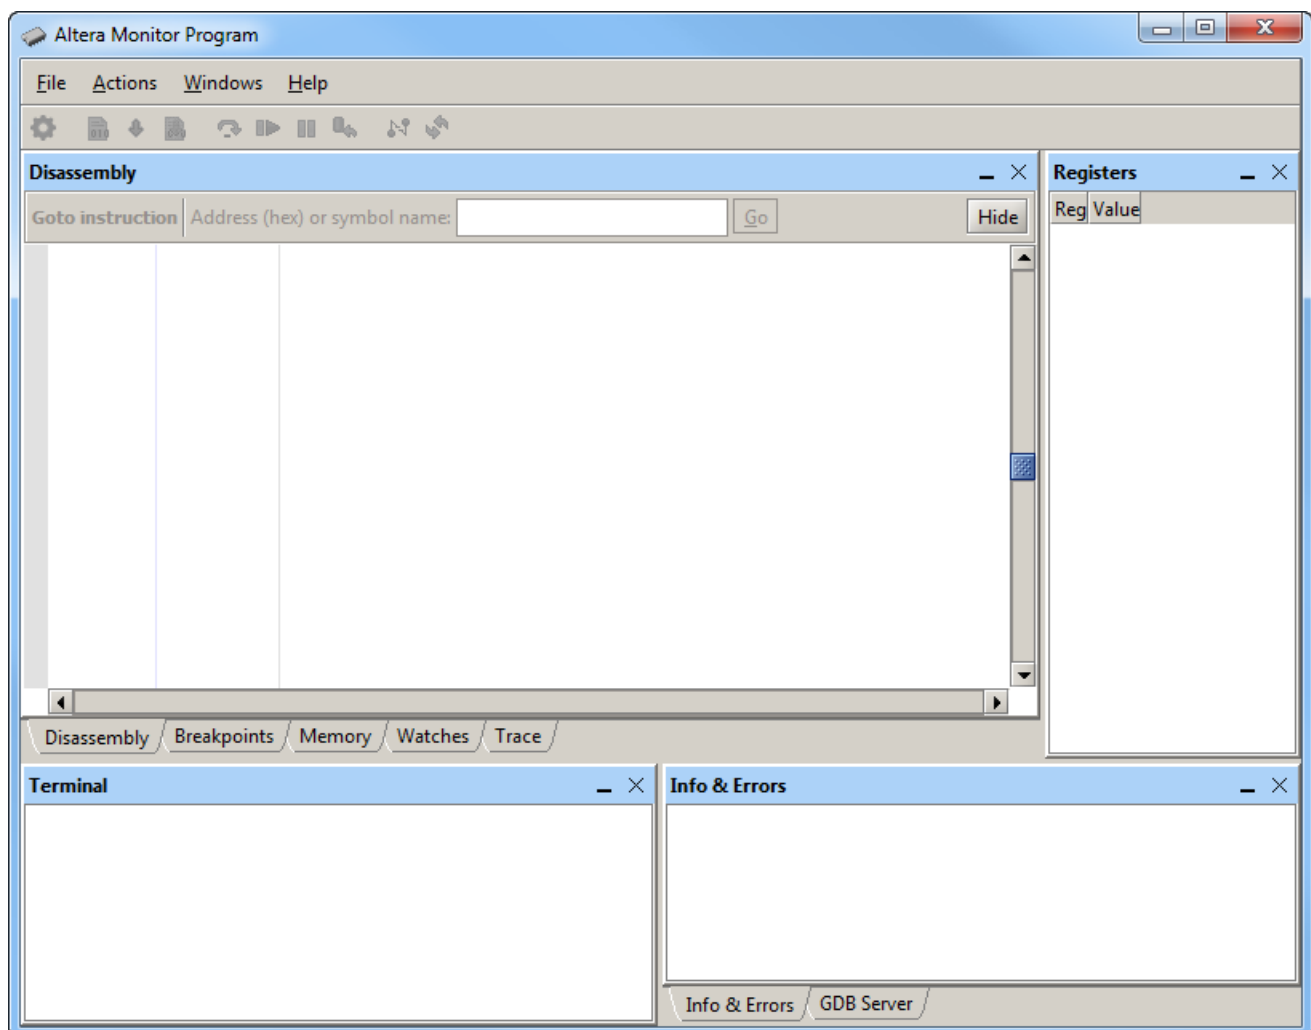

Figure 25. The Intel FPGA Monitor Program main window.
Open the Intel FPGA Monitor Program, which leads to the window in Figure 25.
9. Now, in the monitor window in Figure 25 select Actions > Compile & Load to assemble and download your program.